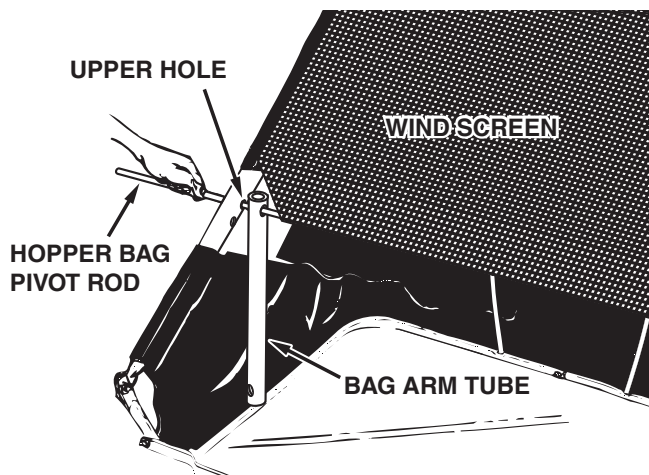

FIGURE 15
- Slide the hopper bag pivot rod through the **upper** hole in the upper hopper tubes and through the stitched sleeve at the front edge of the mesh wind screen, assembling a bag arm tube on each side as shown in figure 15.